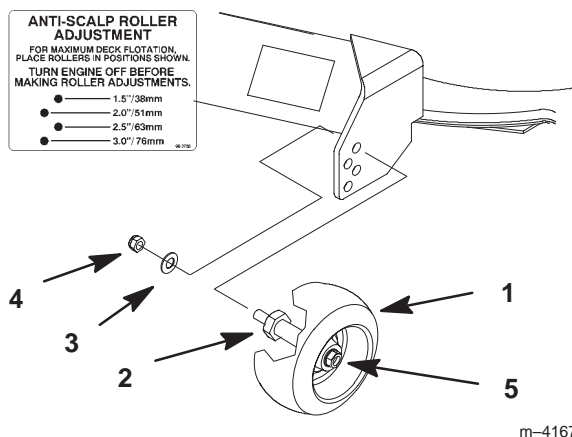

Figure 21
2. After adjusting height-of-cut remove nut and washer while holding stud with wrench (Fig. 21).
Note: Do not remove the wheel nut and washer (Fig. 21).
3. Select hole so gage wheel is positioned to the nearest corresponding height-of-cut desired (Fig. 21).
4. Reinstall the flange nut and spring disk. Torque to 40–45 ft.-lb. (54.2–61.0 N•m) (Fig. 21).